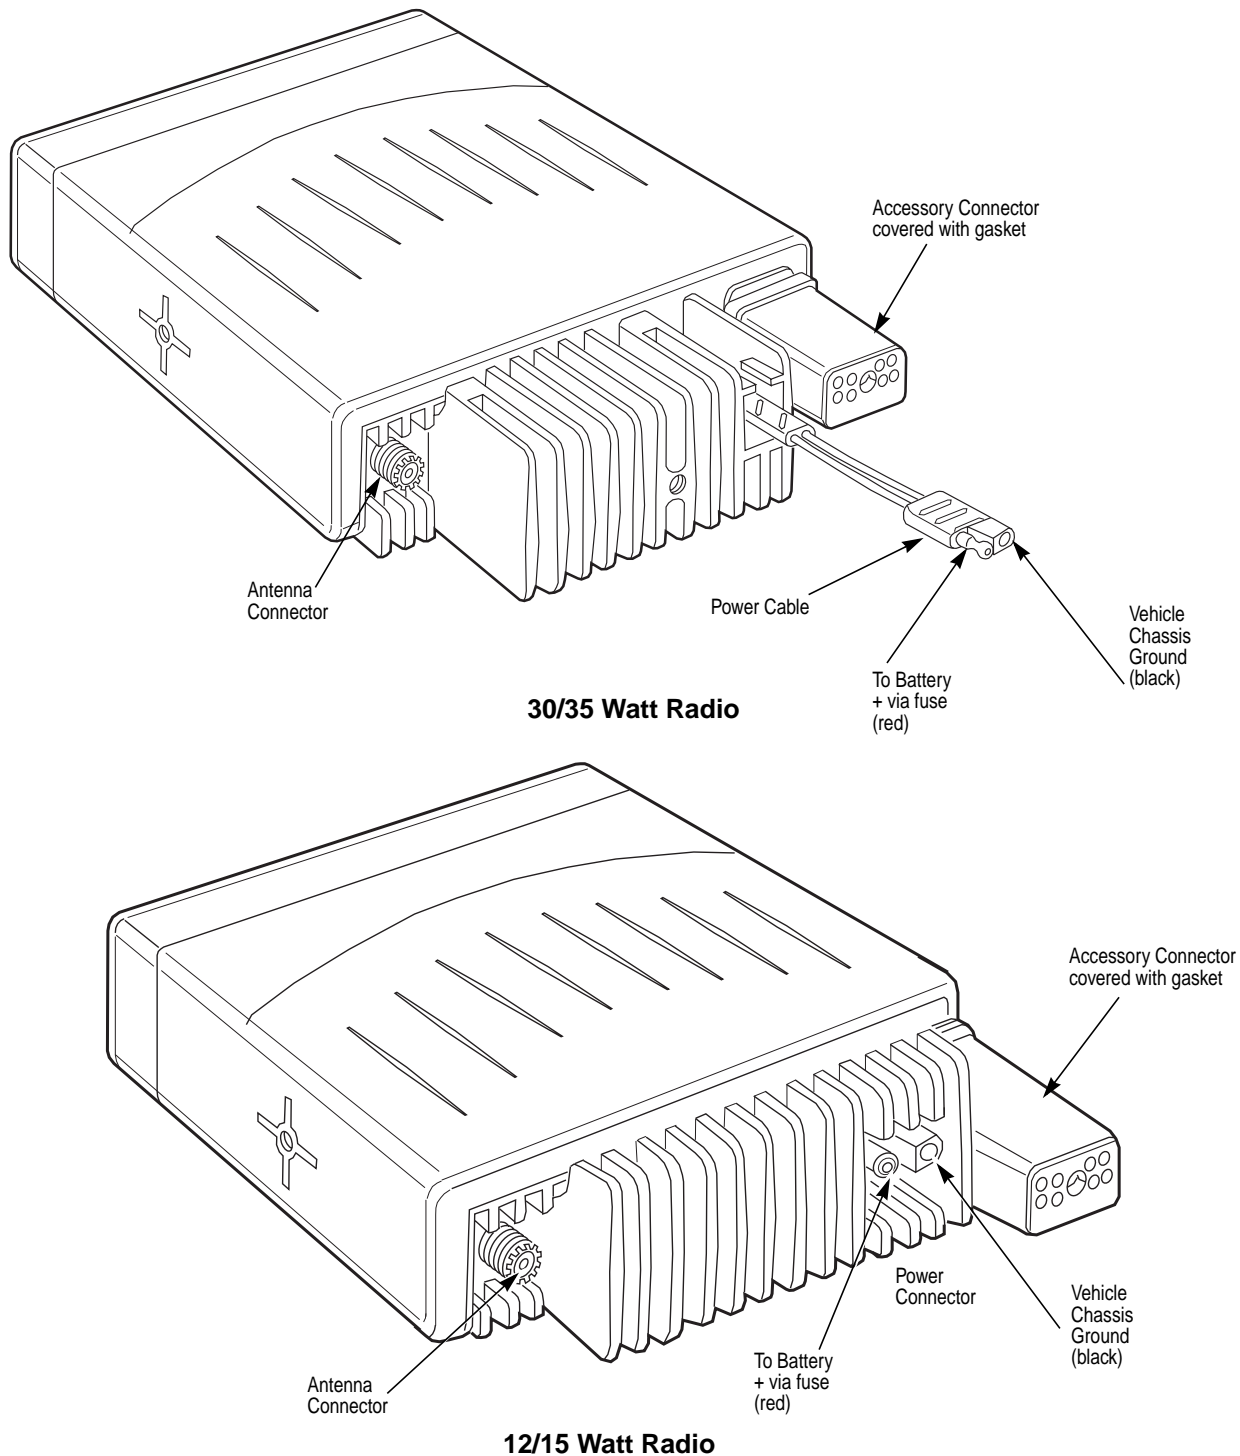

Figure 1-1.
2. Connect the antenna cable connector to the radio antenna connector on the rear of the radio. Refer to Figure 1-1.
3. To complete your radio installation, plug the power cable into the radio power connector. Refer to Figure 1-1.